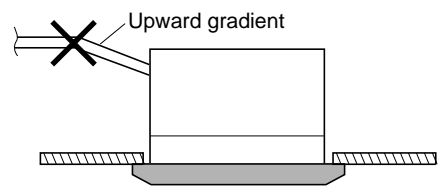

Fig. 2-10
- Do not install the pipe with an upward gradient from the connection port. It will cause the drain water to flow backwards and leak when the unit is stopped. (Fig. 2-10)